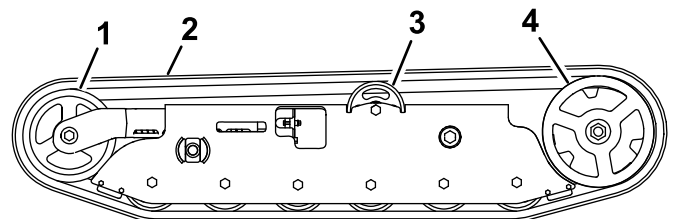

Figure 34
**Important:** Ensure that you fully clean the road wheels, the front wheel, and the drive sprocket (Figure 34). The road wheels should rotate freely when clean.